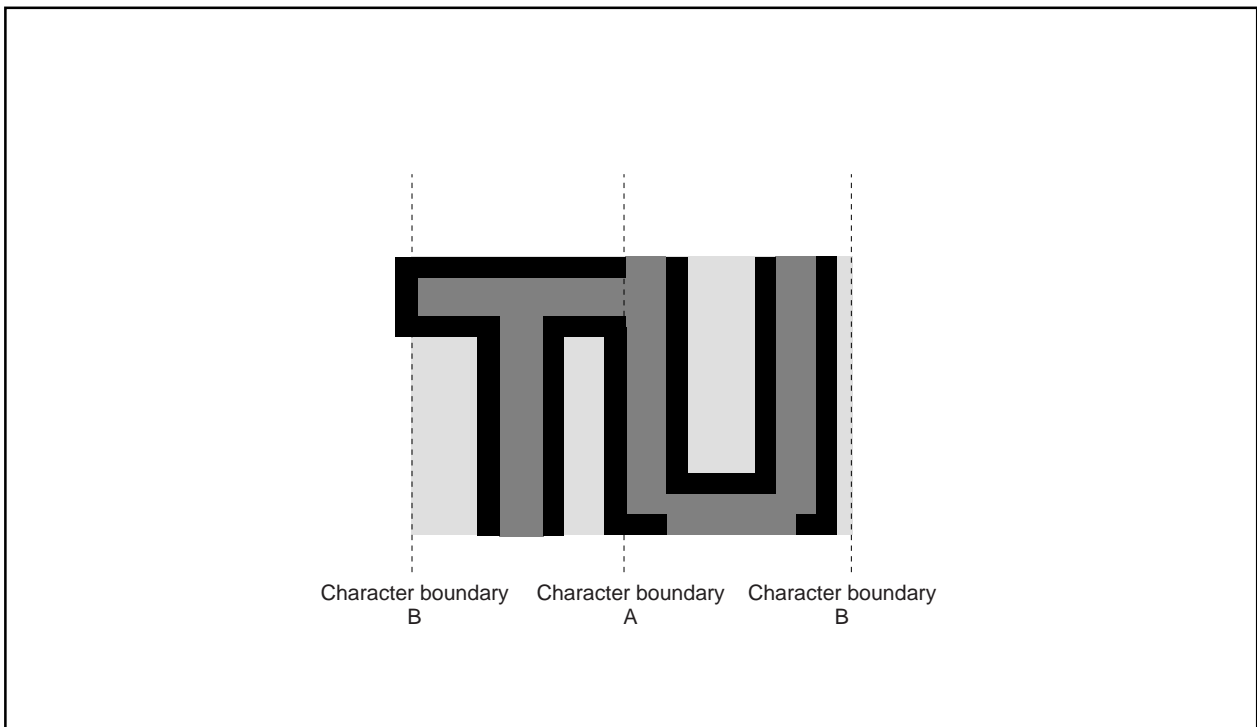

Figure 2.16.37 Border priority
- 2 :** When the border dot overlaps on the next character font, the character font has priority (refer to Figure 2.16.37 A). When the border dot overlaps on the next character background, the border has priority (refer to Figure 2.16.37 B).